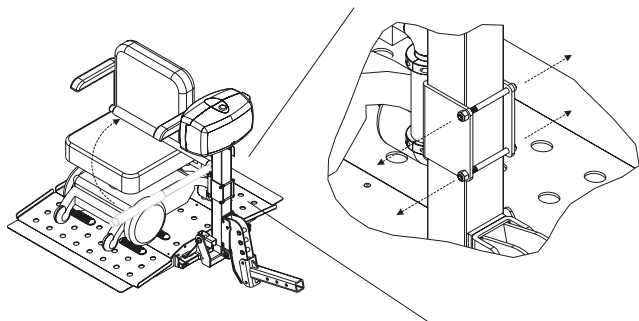

Figure 6-8
3. Rotate arm to locked position over the seat. Loosen the two bolts and nuts in the back of the vertical tube. **See Figure 6-8.** Allow the arm assembly to lower until the arm contacts the seat.